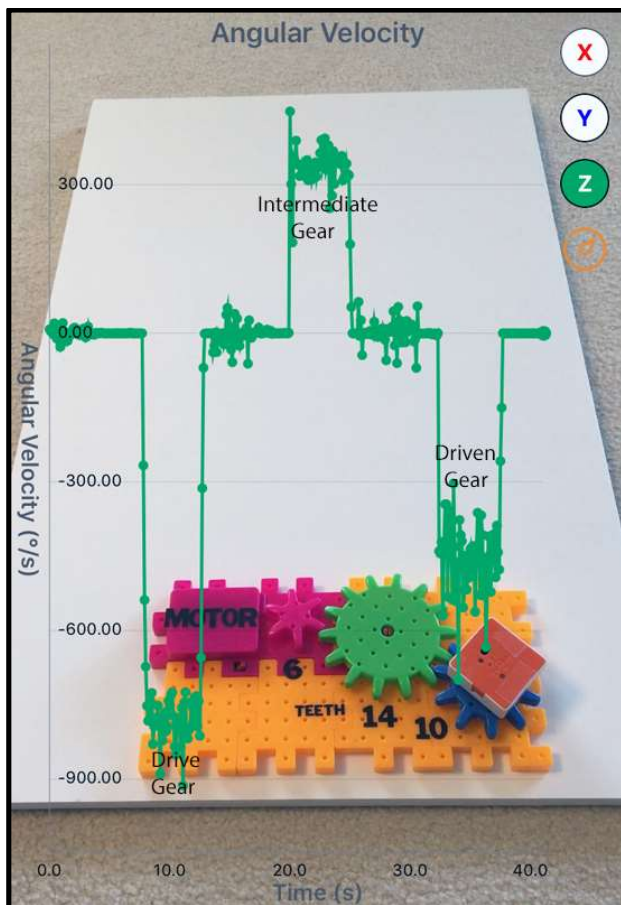

Figure 2
Voyager can be attached to the gears using Scotch® Removable Mounting Squares. Data was collected at 10 points/second, although higher rates would be great. A 40-second video accompanies this lesson showing the entire data collection process. Figure 2 shows a screen capture of data collected from the PocketLab app on an iPhone. Note that Voyager has been attached with the orange side up, *i.e.*, positive z-axis up. Data from the drive, intermediate, and driven gears have been labeled for clarity.
1. Is the drive gear rotating clockwise or counterclockwise based upon information in Figure 2?